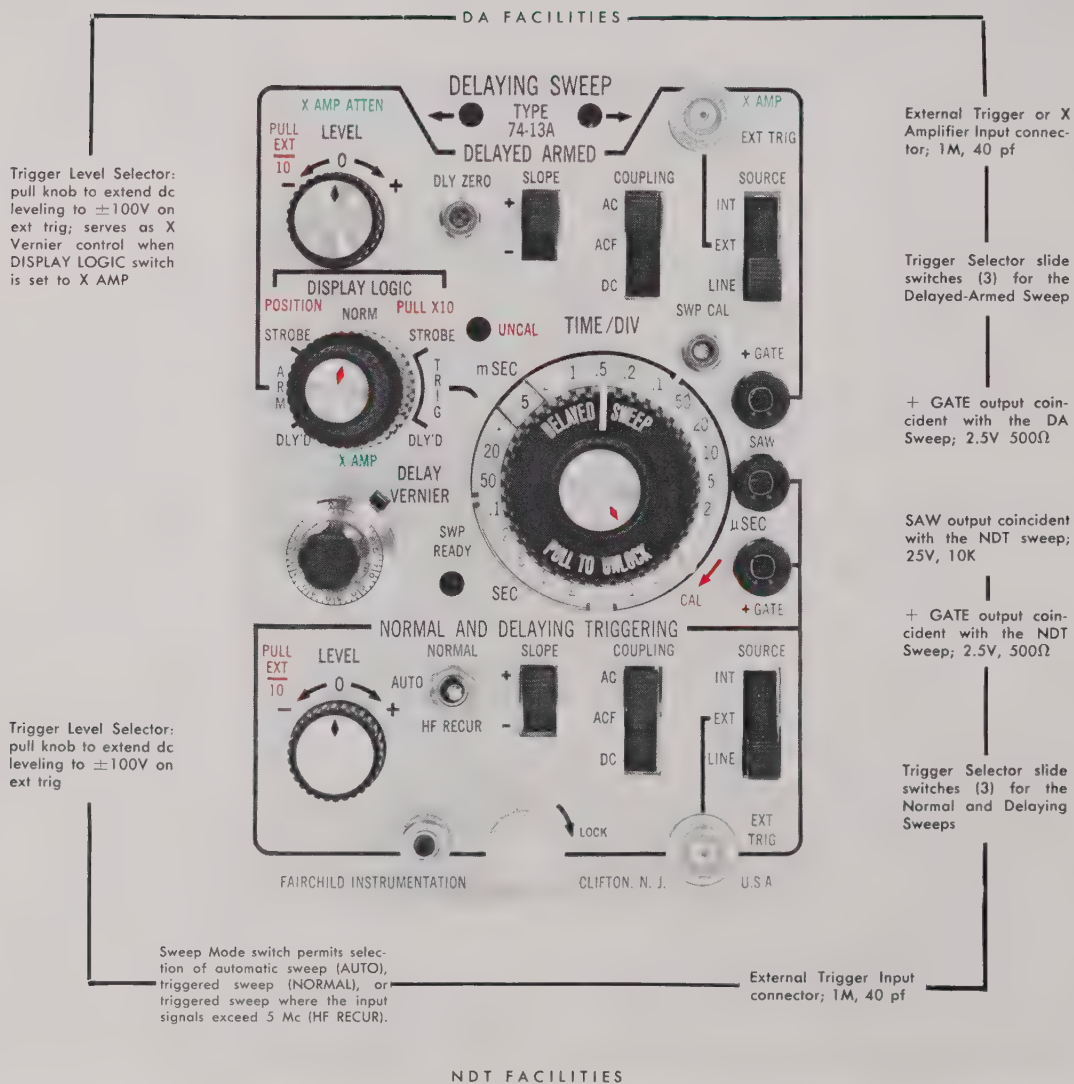

Figure 2-1a. Type 74-13A Function of Controls and Connectors
- Figures 2-1a Type 74-13A, Function of Controls & 2-1b and Connectors